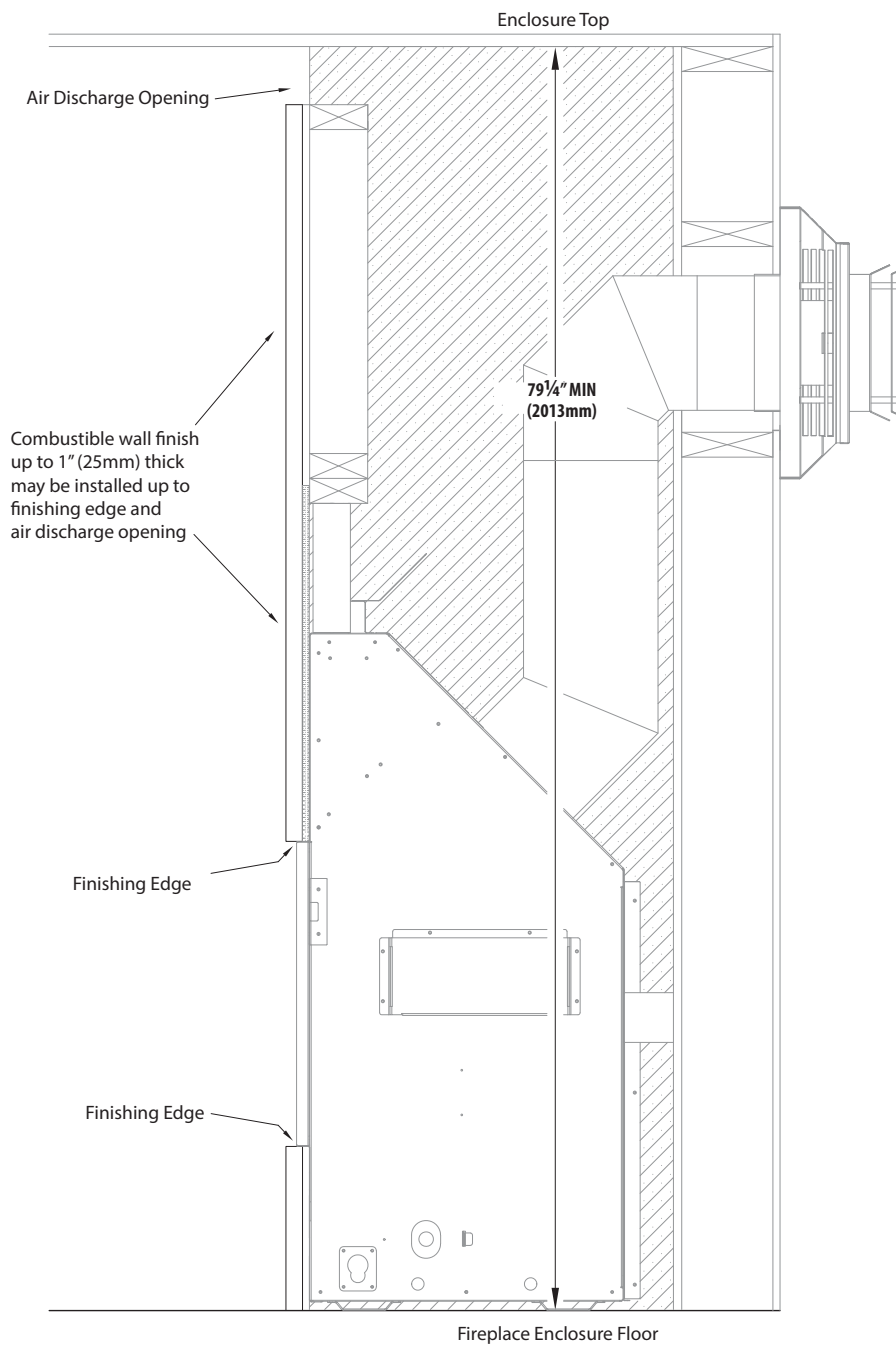

Figure 4.14, Combustible Wall Finish up to 1" thick
- Figure 4.14 on page 35 shows installation of combustible wall finish up to 1" (25mm) thick for Komfort Zone Kit(s) and Vented Cavity installations. For KZK-1510 and KZK-072 installations, reference the manuals included with the kit.